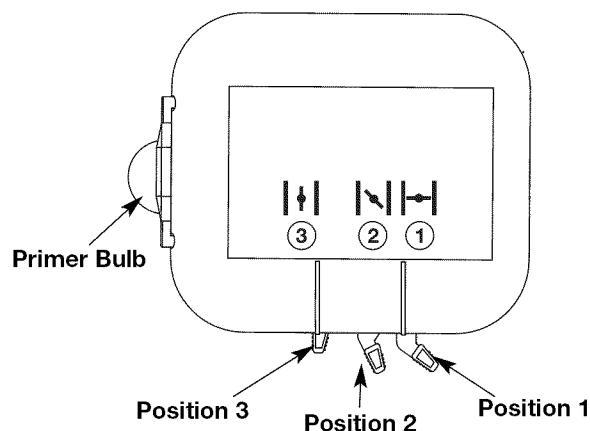

Fig. 12
4. Place the choke lever in **Position 1** (Fig. 12).